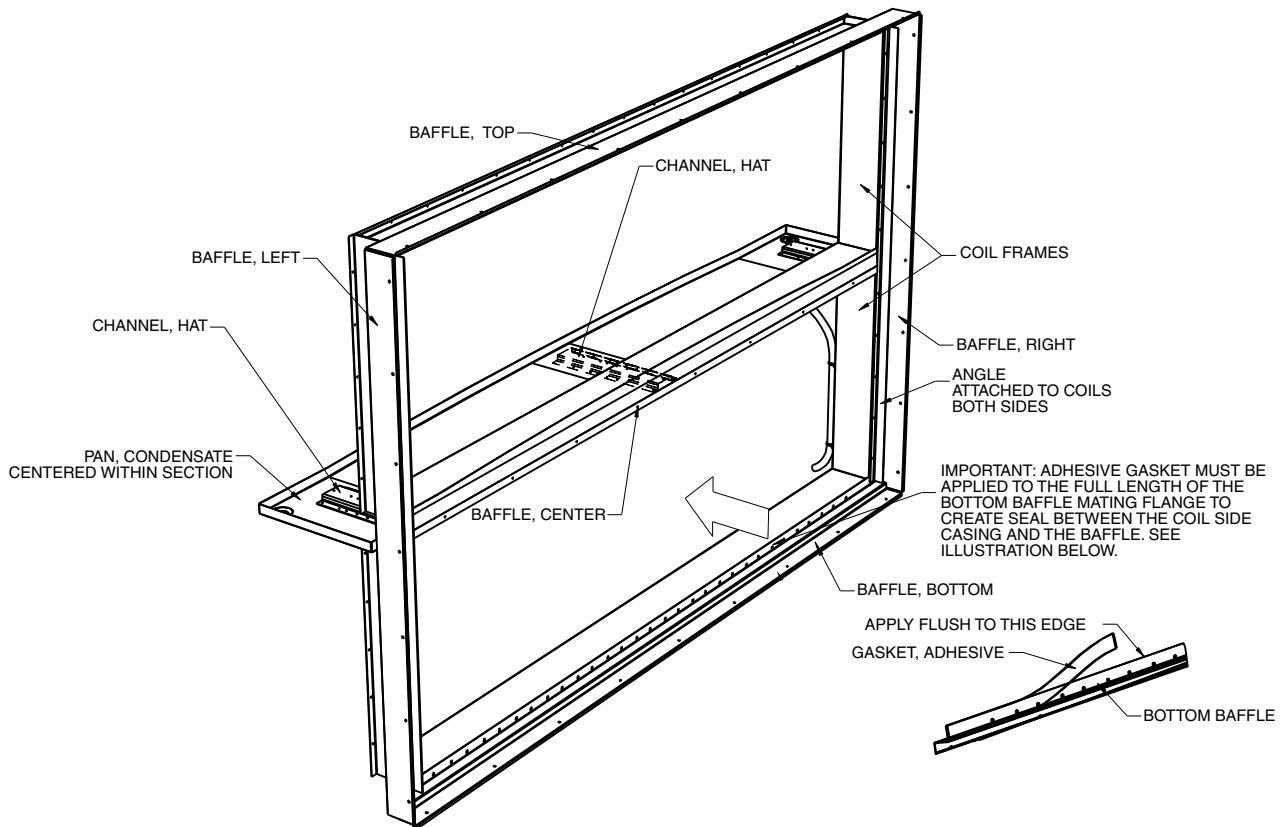

Fig. 195 — Coil Frames and Baffle
4. Remove the fastening screws of the uppermost coil from the upstream side. Note that the fastening screws pass through the vertical angle, baffles, and coil casing. See Fig. 195. Removal of the fastening screws may require reaching through an opened damper assembly, reaching through a filter track after filters are removed, or removing a coil immediately upstream.
7. On the upstream side of the stacked coils, remove and set aside the center baffle spanning the two coils (see Fig. 195).
12. Remove the fastening screws of the lowermost coil from the upstream side. Note that the fastening screws pass through the vertical angle, baffles, and coil casing. See Fig. 195. Removal of the fastening screws may require reaching through an opened damper assembly, reaching through a filter track after filters are removed, or removing a coil immediately upstream.
15. Inspect the adhesive backed gasket applied to the lower baffle, spanning the entire unit, on the surface that contacts the coil (see Fig. 195). If damaged, remove the remainder of the old gasket and replace.